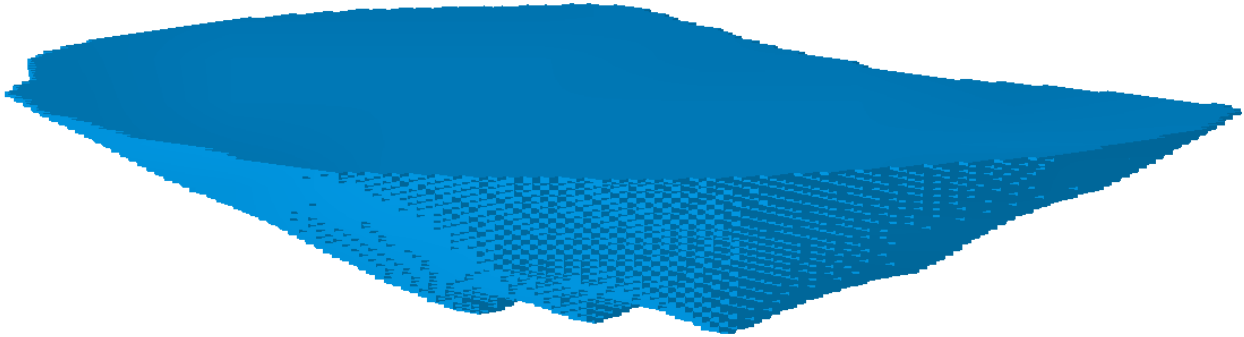

Figure 21
- Click the *Continue* button and a diagram (Figure 21) will be generated that depicts the “Lake Model”.